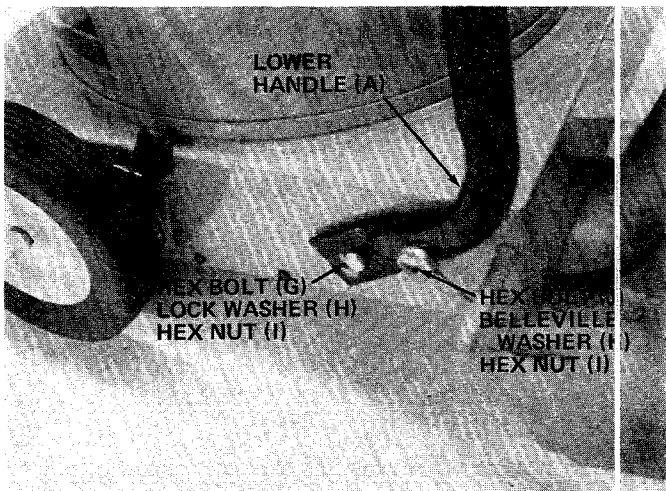

FIGURE 3
3. Place lower handle (A) in position on the vacuum, lining up the holes in the handle with the holes on the frame. See figure 3. Place hex bolts (G) (3/4" long) through lower hole in handle and frame. Secure with lock washers (H) and hex nuts (I) on the inside of frame, finger tight only.
4. Place hex bolts (J) through upper hole in handle and frame. Secure with belleville washers (K) (cupped side against the frame) and hex nuts (I).